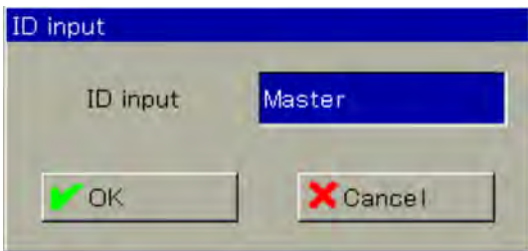

Fig. 97: User login
1. Start the Ecolab PC Setup program from the Start menu of Windows (1)
2. If you are using the demo version of Ecolab PC Setup, enter the user ID "Demo" and confirm with "OK". (See Fig. 97 .)